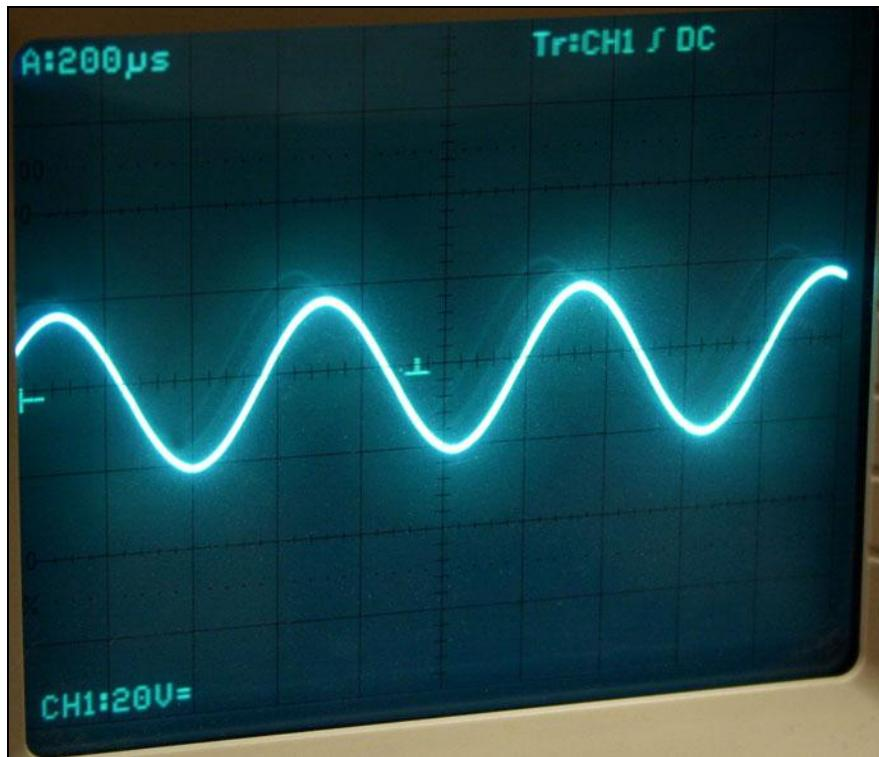

Fig. 17
17.	Following tests are made for all Channels Increase input signal (fig. 17).